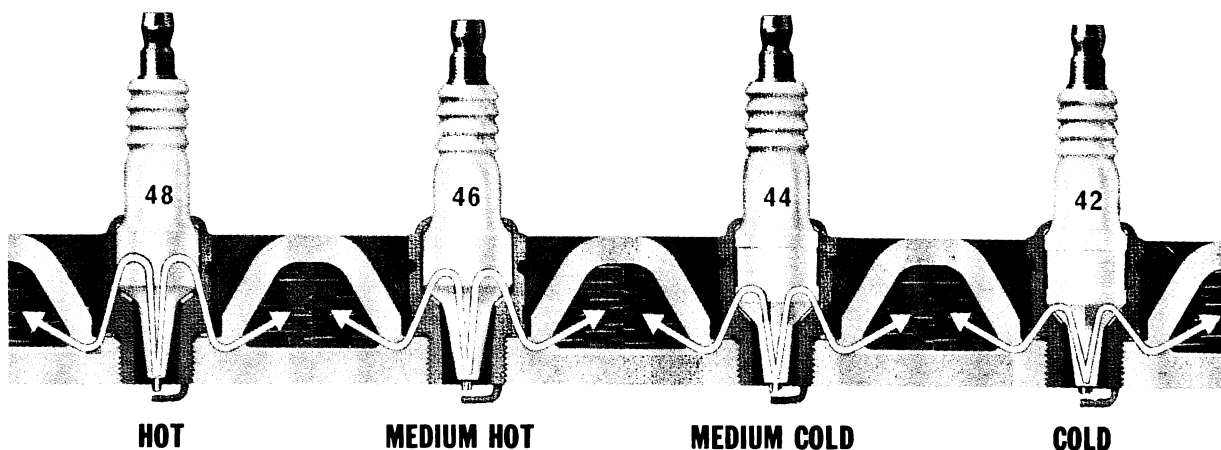

Fig. 21-31 Spark plug heat range difference (AC Spark Plug Division of General Motors Corporation)
3. Flywheel magnet can be checked for rubbing against coil ends. Many bike makers list a specified end clearance that is set with a feeler gauge (Fig. 21-31).
The slow, cautious rider will need a hotter than standard plug installed to keep the bike running well (Fig. 21-31). Only change one step at a time in plug heat range or you may cause excessive fouling or burned piston crowns.